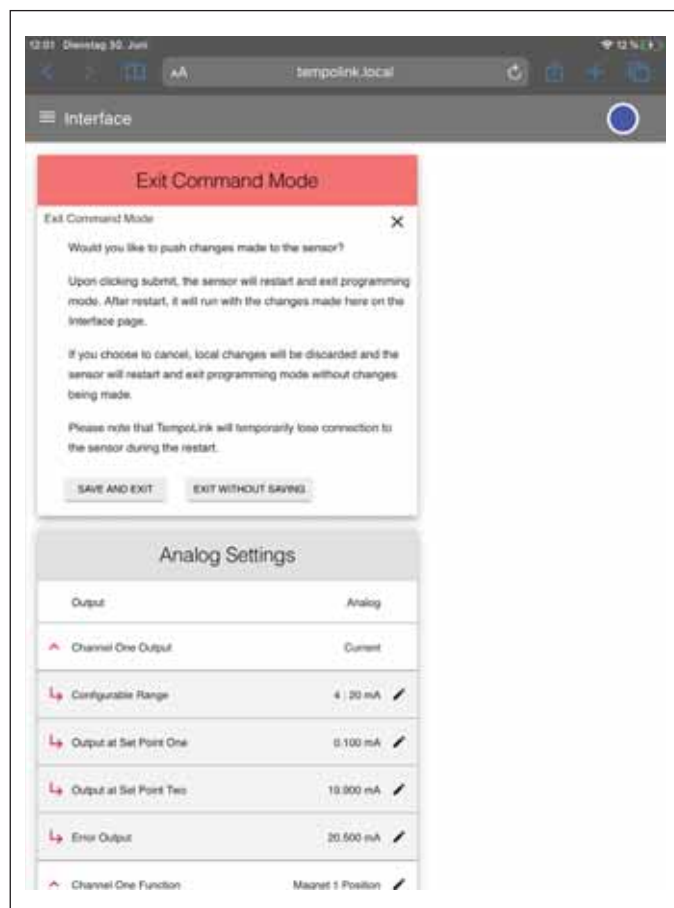

Fig. 50: Exiting the command mode
11. After the parameters have been configured, click the button EXIT COMMAND MODE. The “Exit Command Mode” window for exiting the command mode will open. Click the button SAVE AND EXIT to exit the command mode and to transfer the changed parameters to the sensor (Fig. 50). If you click the button CANCEL, the changed parameters are not transferred to the sensor. The sensor returns to the normal function and outputs the current position value. The connection icon on the top right will turn to green.